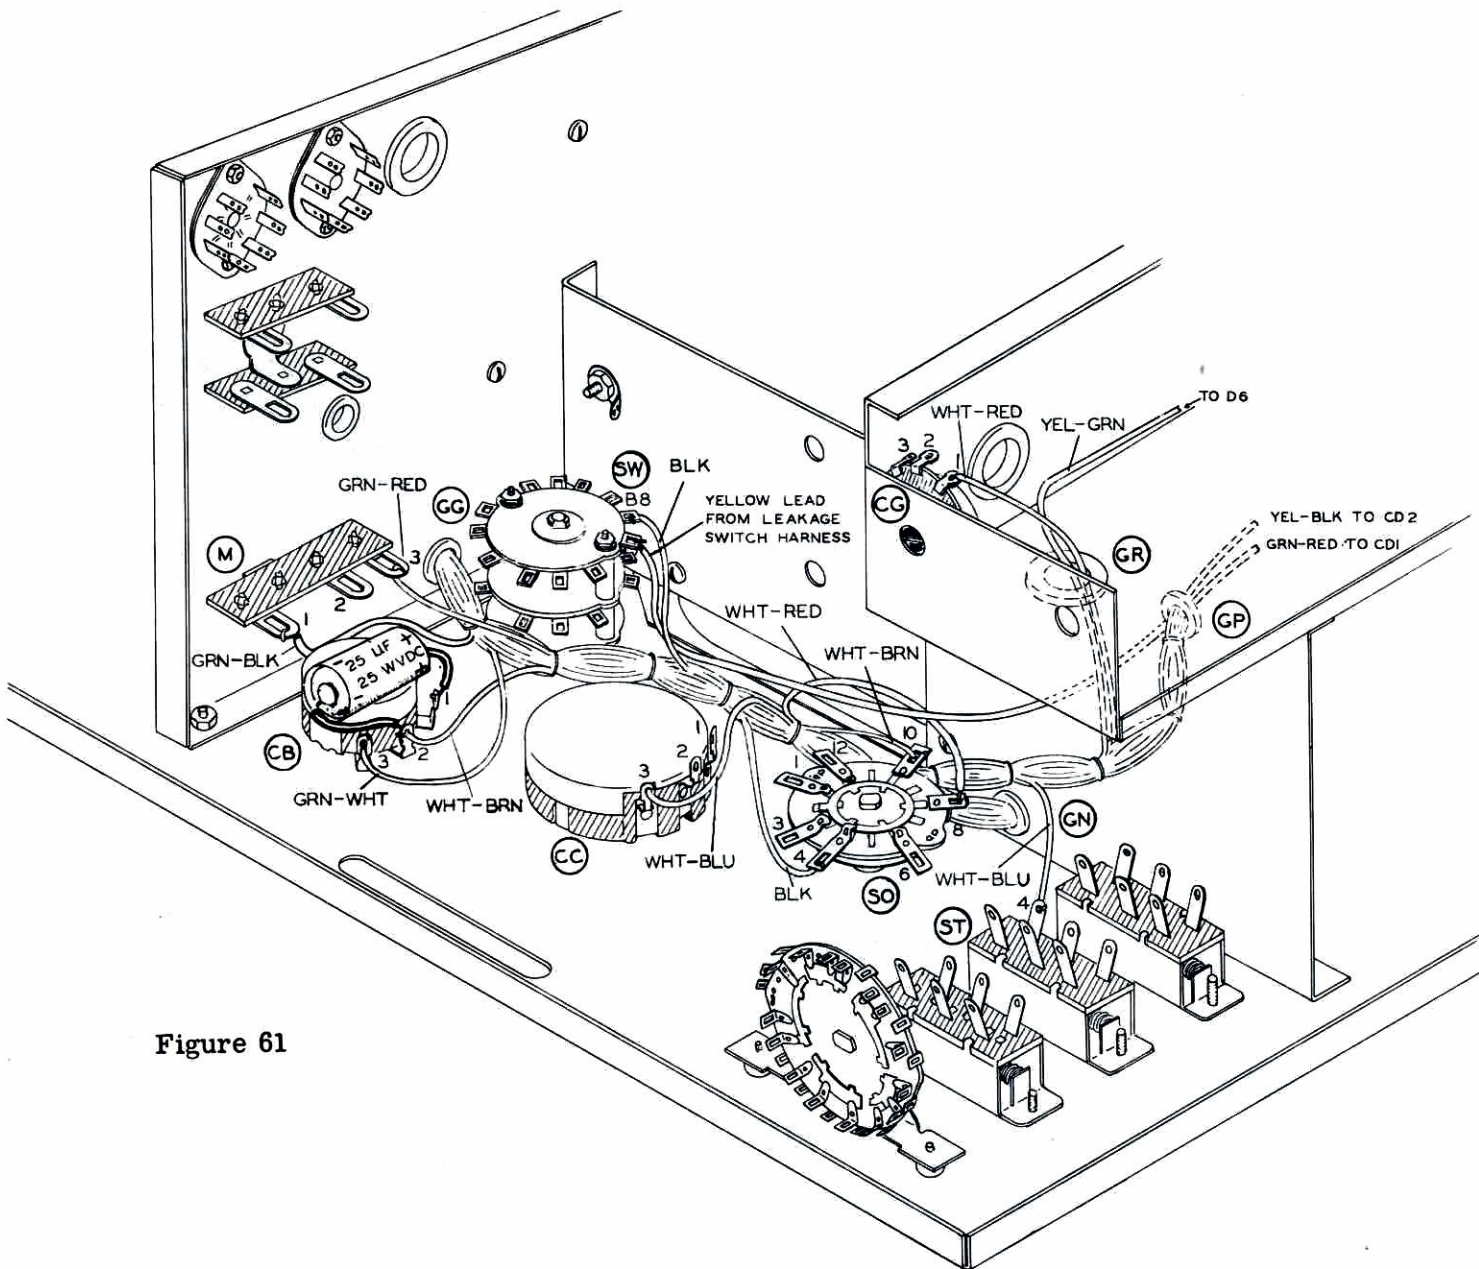

Figure 61
( ) See Figure 61. Connect the yellow lead from the LEAKAGE switch harness to SWB7 (S-1).
- ( ) Connect the yellow-green lead to D6 (NS). See Figures 61 and 62.
- ( ) Connect the green-red lead to CD1 (NS).
- ( ) Connect a 25  $\mu$ fd, 25 V capacitor from CB1 (S-2) to CB2 (S-2), (negative lead to CB2). See Figure 61. Use sleeving.